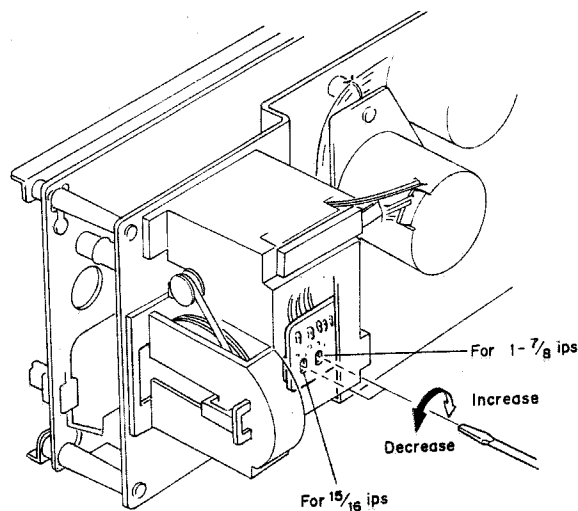

Fig. 4.3
- (d) Referring to Fig. 4.3, adjust the Tape Speed Adjustment Volume VR407 on the Speed Cal. P.C.B. to obtain 3,000 Hz on the Frequency Counter.
- (d) Referring to Fig. 4.3, adjust the Tape Speed Adjustment Volume VR408 on the Speed Cal. P.C.B. to obtain 3,000 Hz on the Frequency Counter.